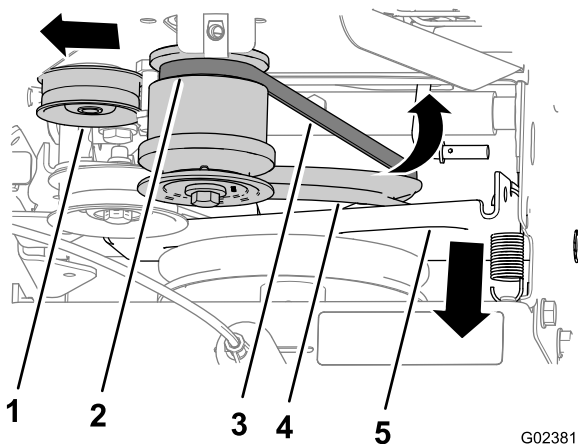

Figure 42
- Pivot the traction-control bracket and traction pulley forward (Figure 42).
- Pull the tension pulley outward (Figure 42).
- Slip the belt off the rear groove of the engine pulley and remove the belt from the machine (Figure 42).
- Align the belt into the groove at the bottom of the traction pulley (Figure 42).
- Align the belt into the rear groove of the engine pulley (Figure 42).